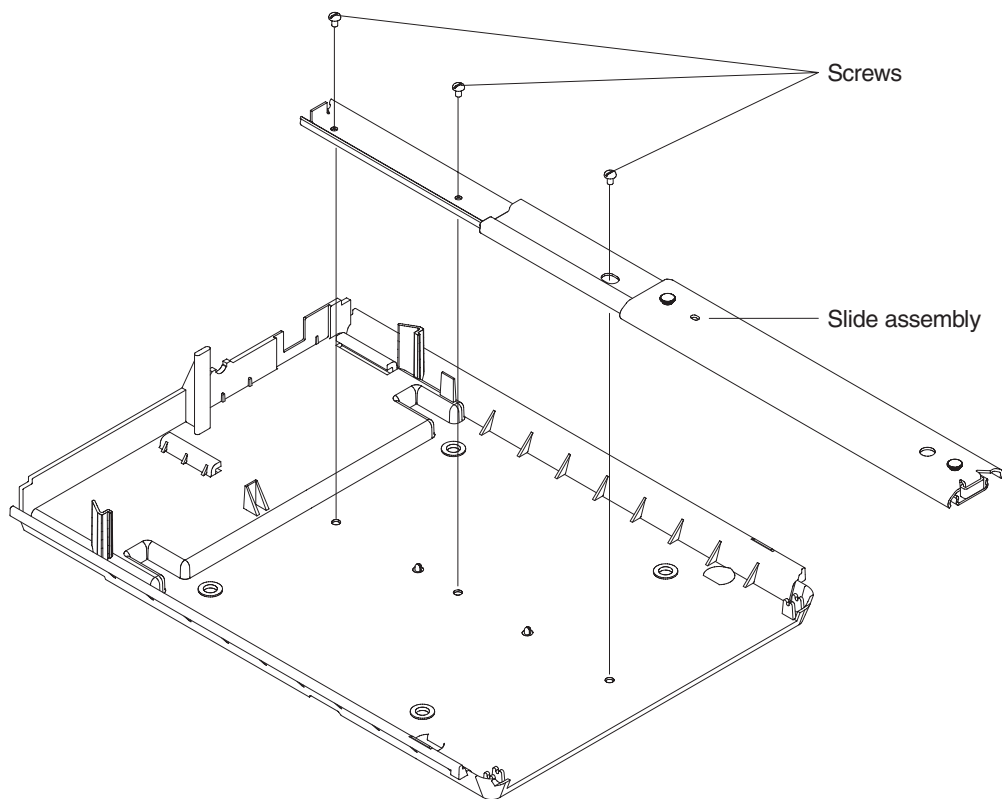

Figure 86. Compact cash drawer slide assembly
3. Remove the three screws that secure the slide to the base and lift the slide assembly out. See Figure 86 on page 110.